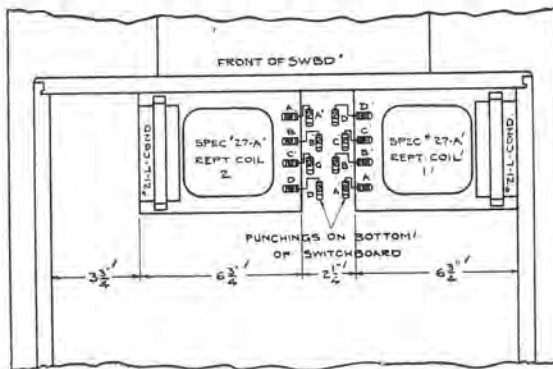

FIG. 14
**UNITS CA-1, CA-5, CB-1 AND CB-5** In cord units CA-1, CA-5, CB-1 and CB-5, mount the repeating coil and condenser on the bottom of the unit opposite the switchboard terminals marked "A," "B," "C," "D" and connect these terminals with the repeating coil terminals marked "A," "B," "C," "D," respectively, as shown in Fig. 14. Then remove the straps from "A" to "B" and "C" to "D" on the switchboard terminals.